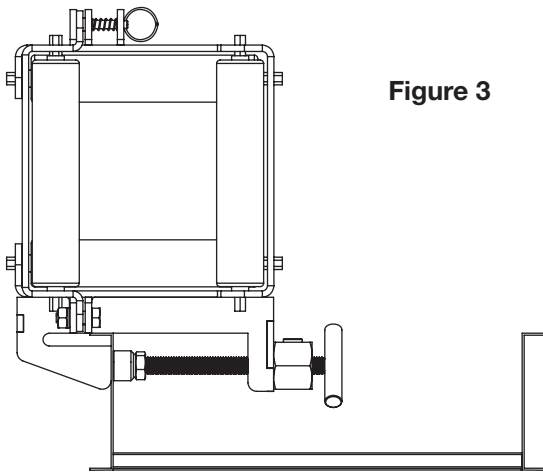

Figure 3
- Alternately, the roller can be mounted in a mirrored orientation as shown in Figure 3.